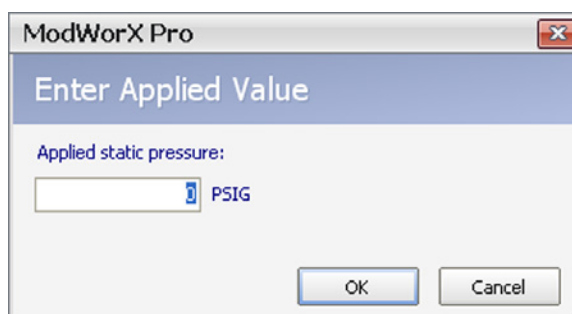

Figure 8.12
5. Apply 0 psig pressure to the calibration test device and click **Acquire Zero Offset**. An Enter Applied Value dialog will appear (Figure 8.12).